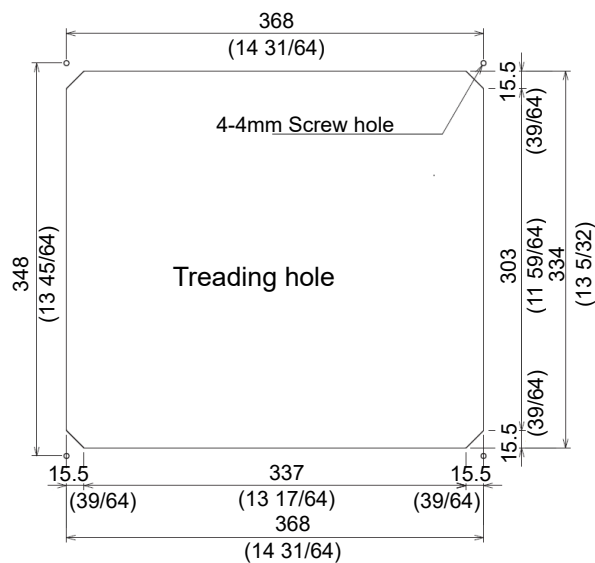

Fig. 1.5 Hole for flush-mount installation of Display unit
- (1) Make a square hole at the location to be installed (See Fig. 1.5)
- (2) Remove four plastic corner guard caps of the Display unit (These can be easily pulled out upwards).
- (3) Confirm that the unit matches the square hole. If not matches, correct the square hole.
- (4) Connect the connectors for power and transducer to the unit respectively.
- (5) Install the Display unit in the installing location (square hole) and fix it with four tapping screws (4mm) (M4 or pan-head). (Prepare 4 mm screws suitable for thickness of installing location.)
- (6) Install the corner guard caps removed in step (2).